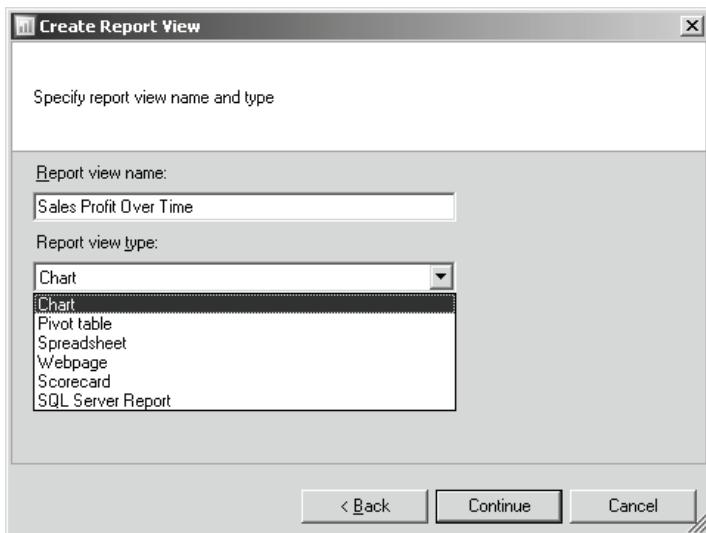

Figure 19.36 Use the Create Report View Wizard to create a report view and specify its type.
12. In the *Specify report view and type* step (Figure 19.36), enter **Sales Profit Over Time** as the report view name and select *Chart* as a report type.